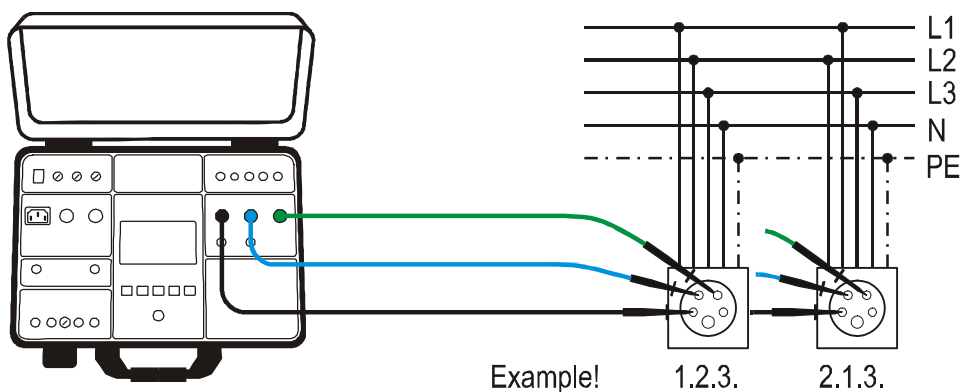

Figure 40: Connection of test leads in PHASE SEQUENCE measurement
- 6) Start the measurement by pressing the **START/STOP** button. The measurement will start to run and will be stopped after pressing the **START/STOP** button again. Measurement result will be currently displayed in green colour if it is lower than or equal to set limit value or in red colour if it is higher than set limit value. Final result will be equipped with green  symbol and with beep-beep sound if it is OK or with red  symbol and with longer beep sound if it is not OK. See the display outlook with test result on the figure 40.